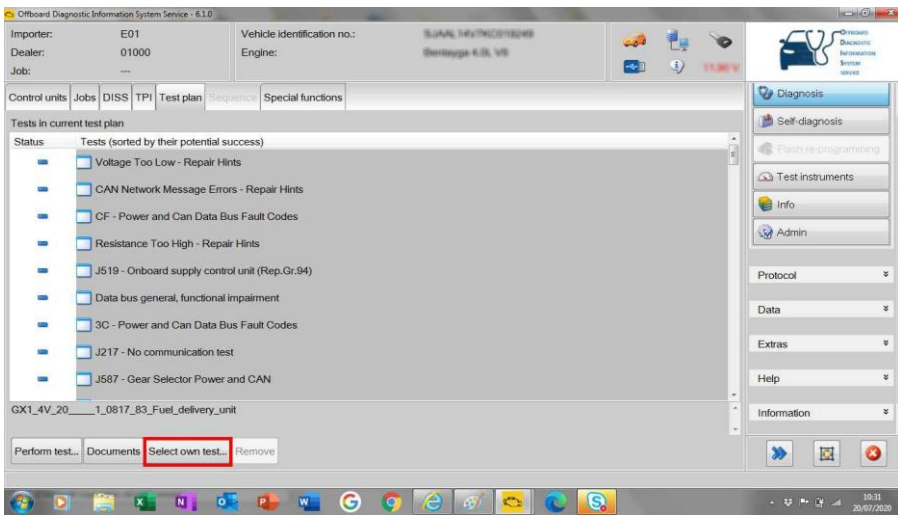

Figure 2
- Select “*Select own test*” – Figure 2.